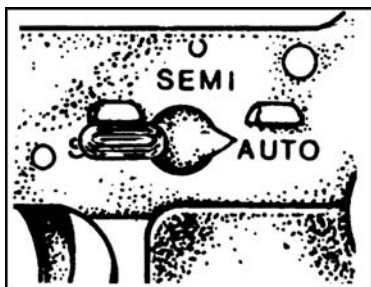

Figure 071-311-2026-3. Selector lever in AUTO position
3. Check an M16A1 with the selector lever in the AUTO position (figure 071-311-2026-3).